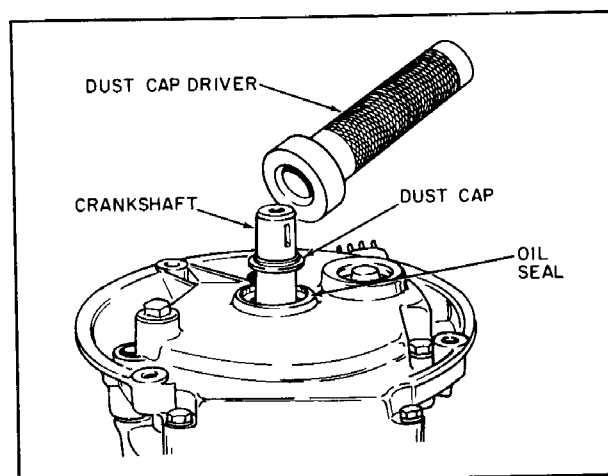

Figure 11-4
4. Install dust cap on crankshaft with dust cap driver. Drive dust cap only until it is even with mounting flange boss. (Figure 11-4)